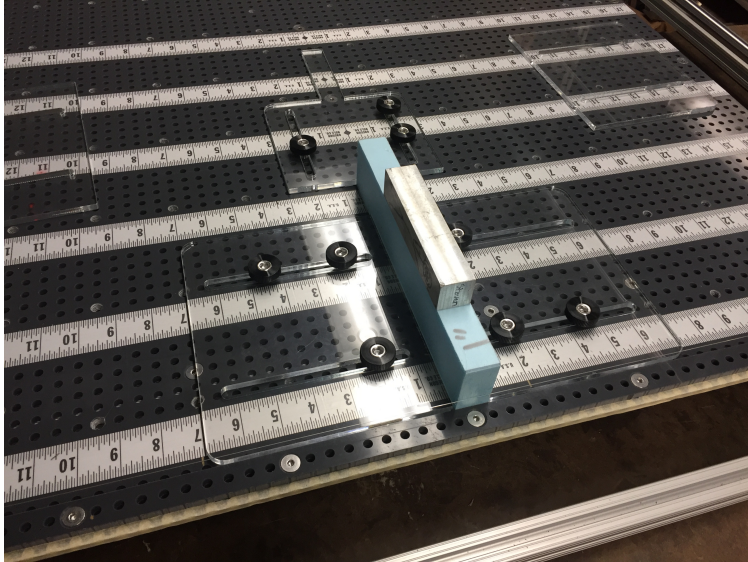

Figure 2.5: Secure the Foam Step 7
7. Place a small piece of aluminum block on top of the foam to prevent vertical movement as shown in fig 2.5 below.